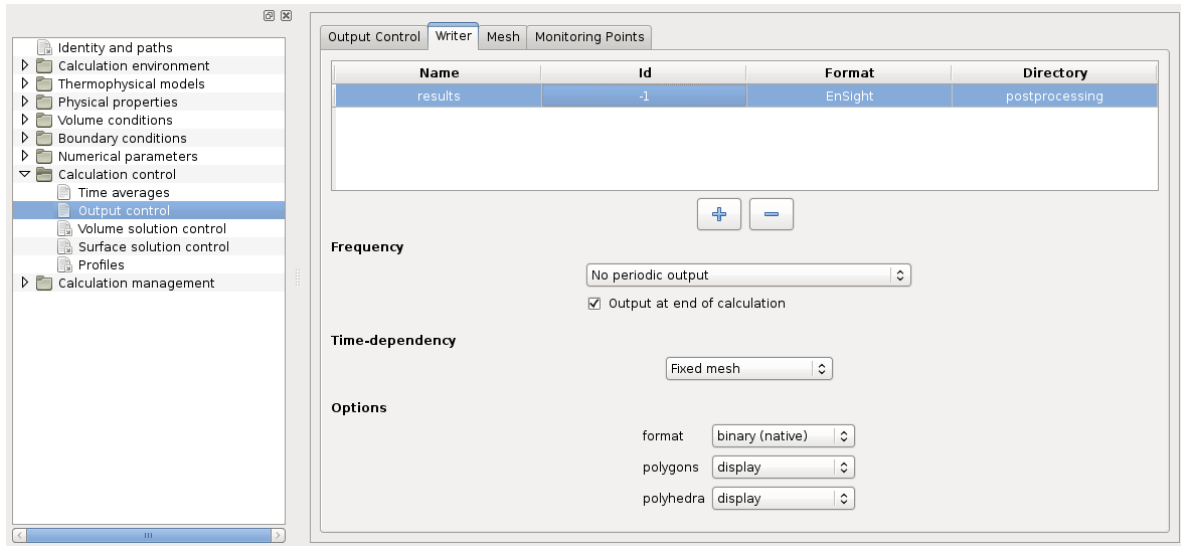
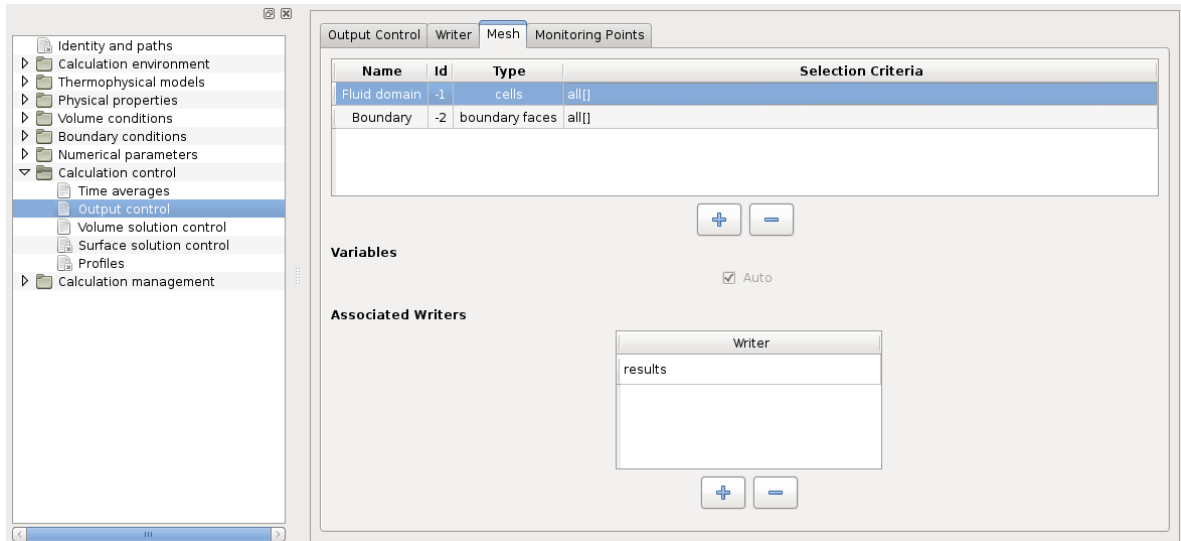

Figure 25: Management of postprocessing writers
Figure 26: Management of postprocessing meshes
- Calculation control: parameters related to the time averages, the locations of the probes where some variables will be monitored over time (if the GUI is not used, this information is specified in § 6.3), the definition of the frequency of the outputs in the calculation listing, the post-processing output writer frequency and format options, and the post-processing output meshes and variables selection, see Figure 23, Figure 24, Figure 25, and Figure 26. The item "Profiles" allows to save, with a frequency defined by the user, 1D profiles on a parametric curve define by its equation, see Figure 27.